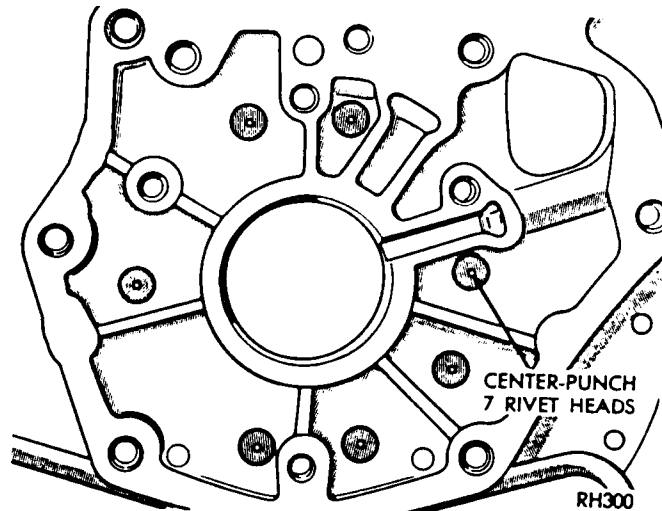

Fig. 36—Center Punch Rivet Heads
(1) Remove four bolts securing output shaft support to rear of the transmission case. Tap support rearward out of the case with a soft-faced hammer.
(2) Center punch the rivets exactly in center of each rivet head (Fig. 36).
(3) Drill through each rivet head with a 3/8 inch drill. Be careful not to drill into the transmission case. Chip off rivet heads with a small chisel, then drive rivets and cam from the case with a blunt punch of